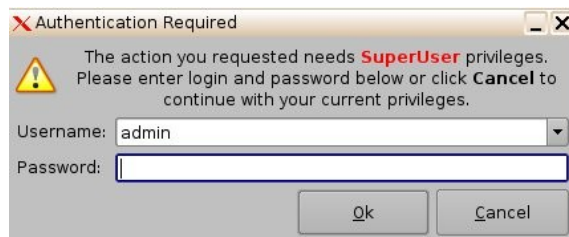

Figure 141: Password Confirmation Window
- The user will be asked for a password. Enter the appropriate password to continue (Figure 141).